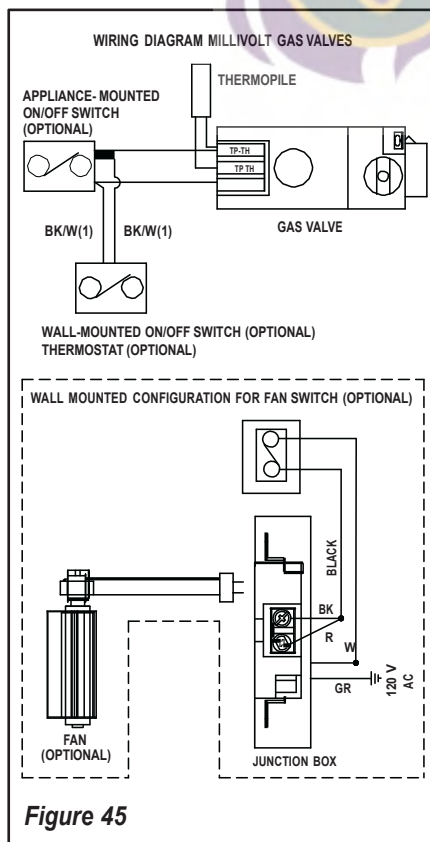

Figure 45
A. Millivolt Wiring (See Figure 45)
a. Standard OFF/ON Switch - Install the OFF/ON burner control switch (rocker switch) as shown in *Figures 45, 46 and 49*.
b. Optional Control Switch (OFF/ON wall switch, wall thermostat or remote control receiver). Install snap bushing (provided in Electrical Outlet Kit) into control switch knockout in side panel (see *Figures 13, 14 and 48*). Wire the optional control switch within the millivolt control circuit (as shown in *Figure 45*) using the 15 feet of 2 conductor wire supplied (route wires through the snap bushing to the optional control switch). Mount the optional control switch or wall thermostat in a convenient location on a wall near the fireplace.